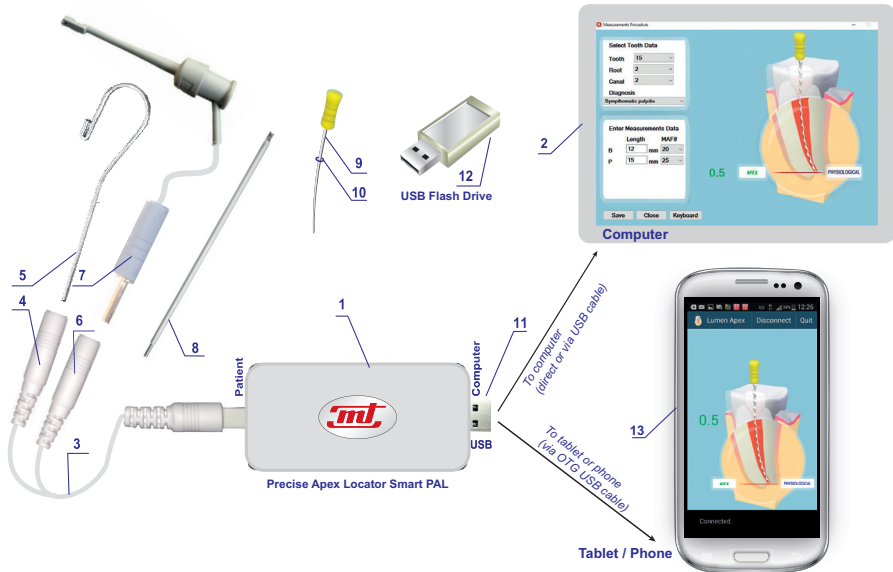

Fig. 1
3. Connect the unit to the phone/tablet using a standard USB-OTG cable (Fig. 1). Press button **Connect** (Fig. 3). The crosssectional view of dental root canal model changes into colorful picture. This means that the unit is energized and ready to use (Fig. 4).
1. Connect the unit to the computer directly or via extension USB cable (Fig. 1). You will hear a beep when the unit is properly connected. This should be done every time before starting the software program.